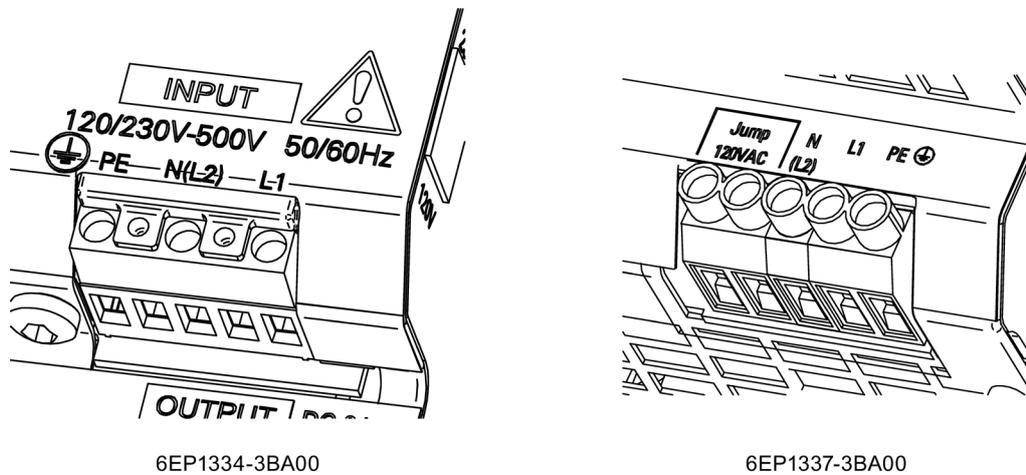

Figure 5-1 Line connection
The line supply is connected using terminal L1, L2(N) and PE (see Figure 5-1 Line connection (Page 31)), and must be implemented according to IEC 60364 and EN 50178 .